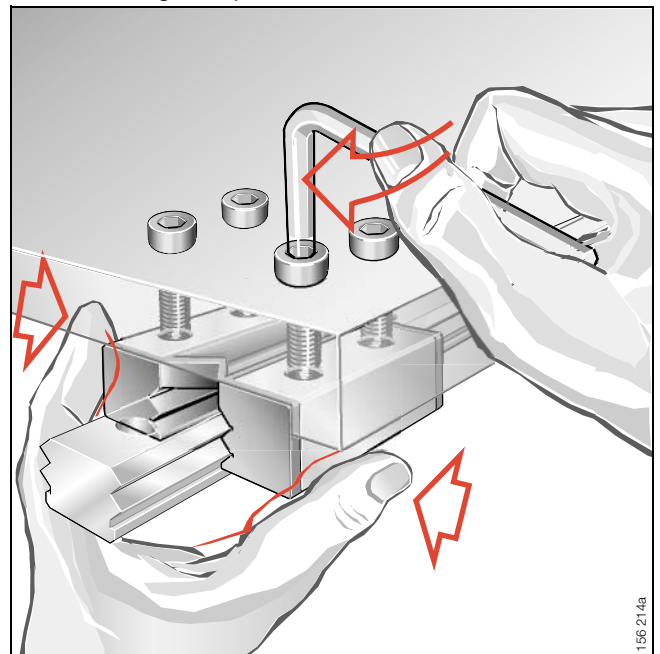

Figure 4 · Setting the bearing clearance – by hand
- by pressing the carriage onto the guideway by hand and tightening the screws in the carriage in this position (Figure 4).